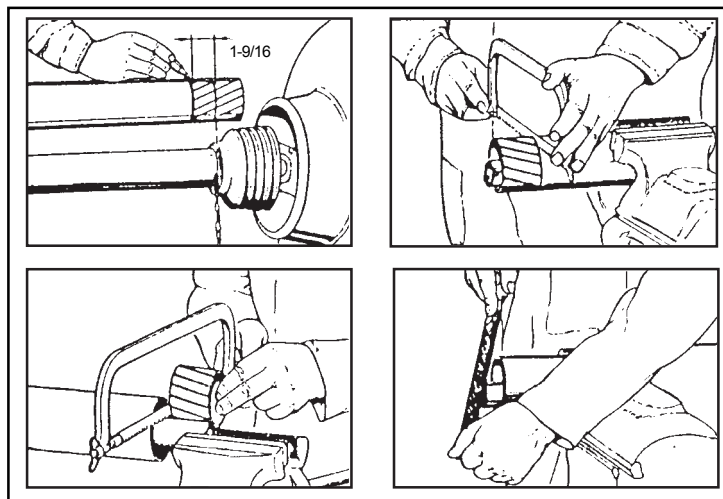

FIGURE 8
- Check position which places driveline at maximum extended length and at maximum compressed length. Maximum extended length must always maintain at least 10 inches of profile tube engagement. Maximum compressed length should always maintain 1-9/16 clearance; if not shorten driveline as shown in **Fig 8**.